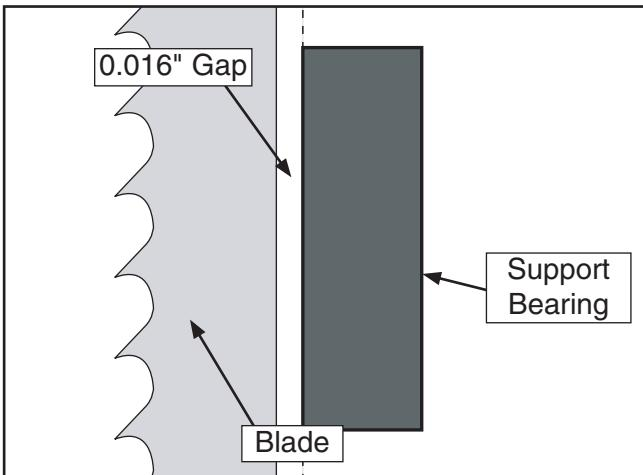
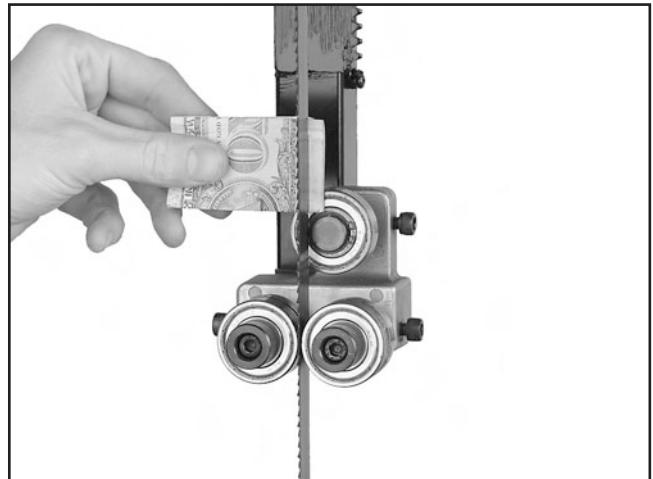

Figure 29. Blade should be aligned approximately 0.016" away from the bearing edge.
Figure 30. Dollar bill folded twice to make an approximate 0.016" gauge.
7. Place a 0.016" feeler gauge between the support bearing and the blade, and position the bearing 0.016" away from the back of the blade as illustrated in **Figure 29**.
Note: For a quick gauge, fold a dollar bill in half twice (four thicknesses of a dollar bill is approximately 0.016") and place it between the support bearing and the blade as shown in **Figure 30**.
- Place a 0.016" feeler gauge between the support bearing and the blade, and position the bearing 0.016" away from the back of the blade as illustrated in **Figure 29** or use a dollar bill as shown in **Figure 30**.